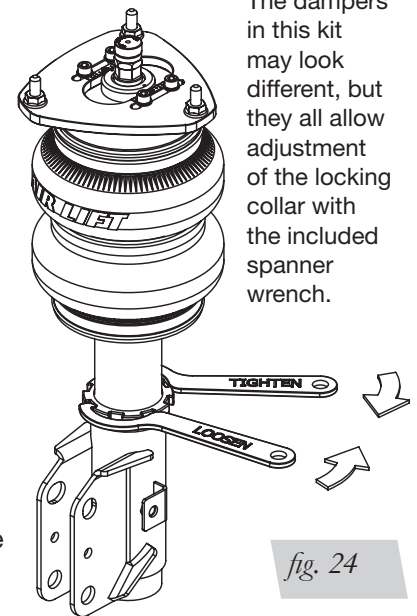

fig. 24
3. Using the supplied spanner wrench, loosen the locking collar (Fig. 24).